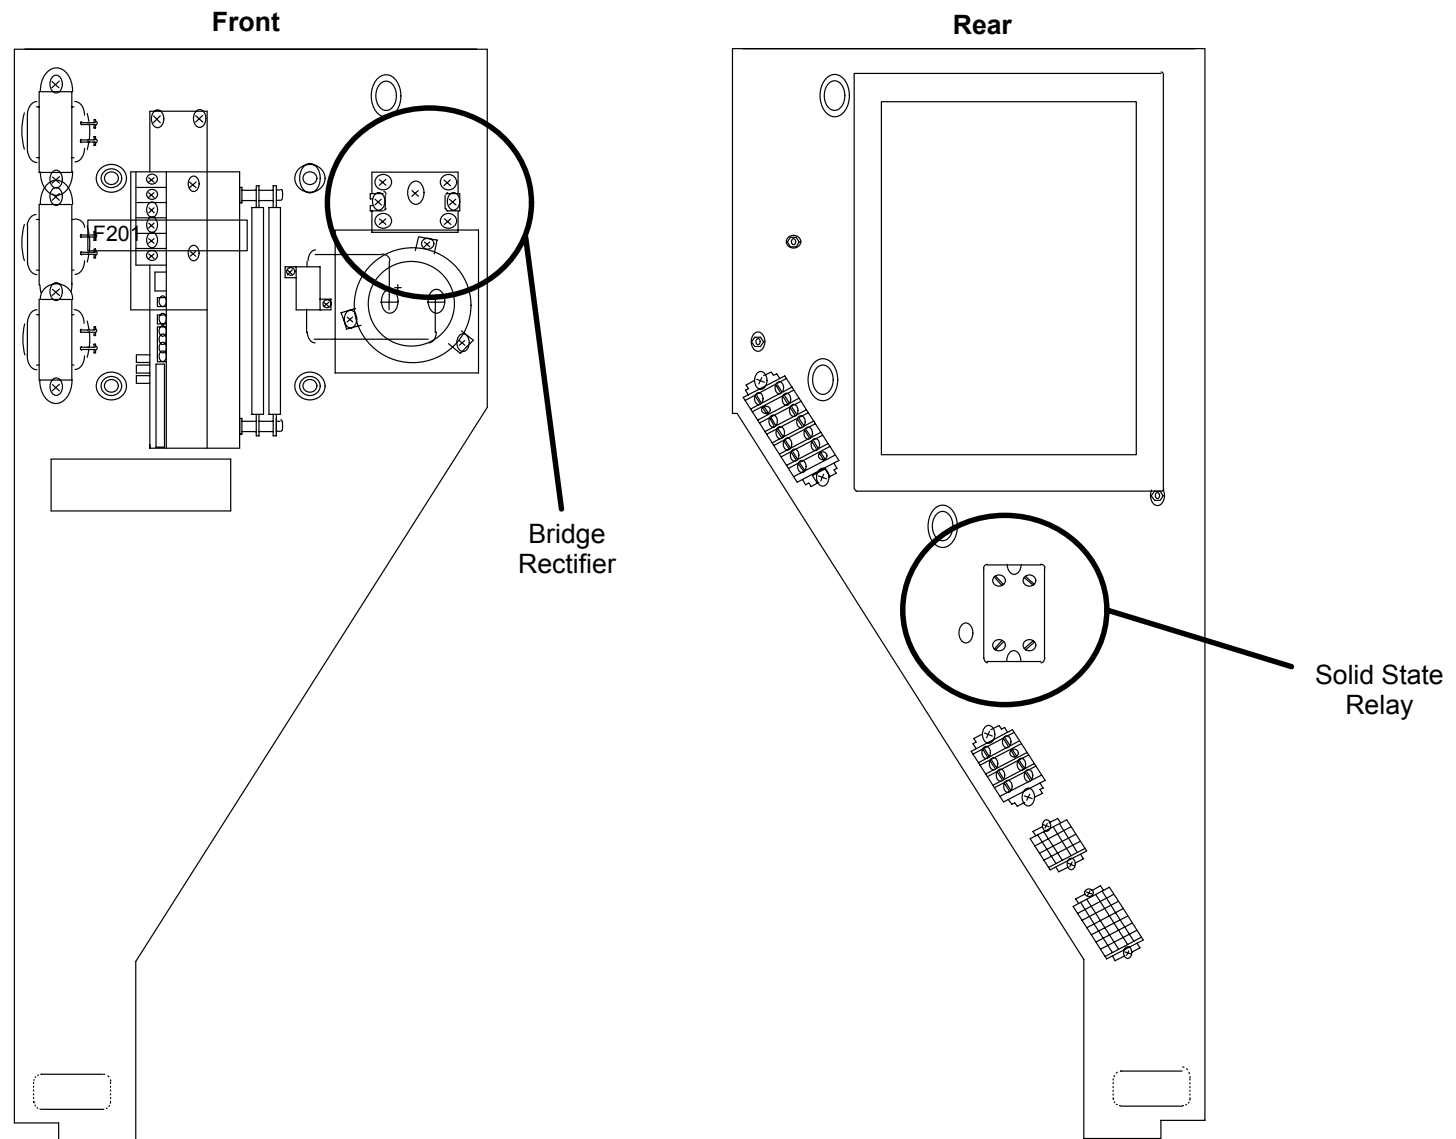

FIGURE 286 Bridge Rectifier and Solid State Relay Locations
3. Tag and remove the four wires connected to the SSR terminals. See Figure 286.